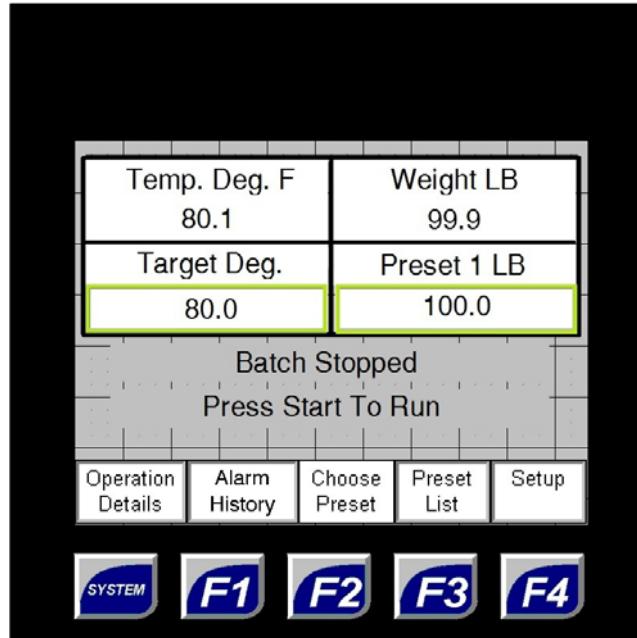

Figure 6 – Main Screen
1. Touch the **Target Deg. F** value that is highlighted in Figure 6 below. A popup numeric keypad will appear. Type in the desired value and then press **Enter**. Press **Esc** to leave the values unchanged.
2. Touch the **Preset LB** value that is highlighted in Figure 6 below. A popup numeric keypad will appear. Type in the desired value and then press **Enter**. Press **Esc** to leave the value unchanged.
Upon installing a new water blender, the basic setup parameters need to be selected and the unit needs to be calibrated. Figure 6 shows the main screen that the controller will display upon power up of the unit. The operator interface terminal is a touch screen. The function buttons are not used or needed.
To select the basic parameters for the new water blender the operator will need to enter the setup portion of the application. Press the highlighted button on the main screen that is labeled, "Setup". Refer to figure 6. The application will ask the user for the password. The default password to enter setup is "5354". This password can be changed at a later time. Changing the password will be explained later in this document. Make sure that the password that you choose is written down somewhere just in case it is forgotten. You will not be able to gain access to the setup routine if you forget the password or change the password from the default code. Entering the password will bring up the Basic Setup Screen.